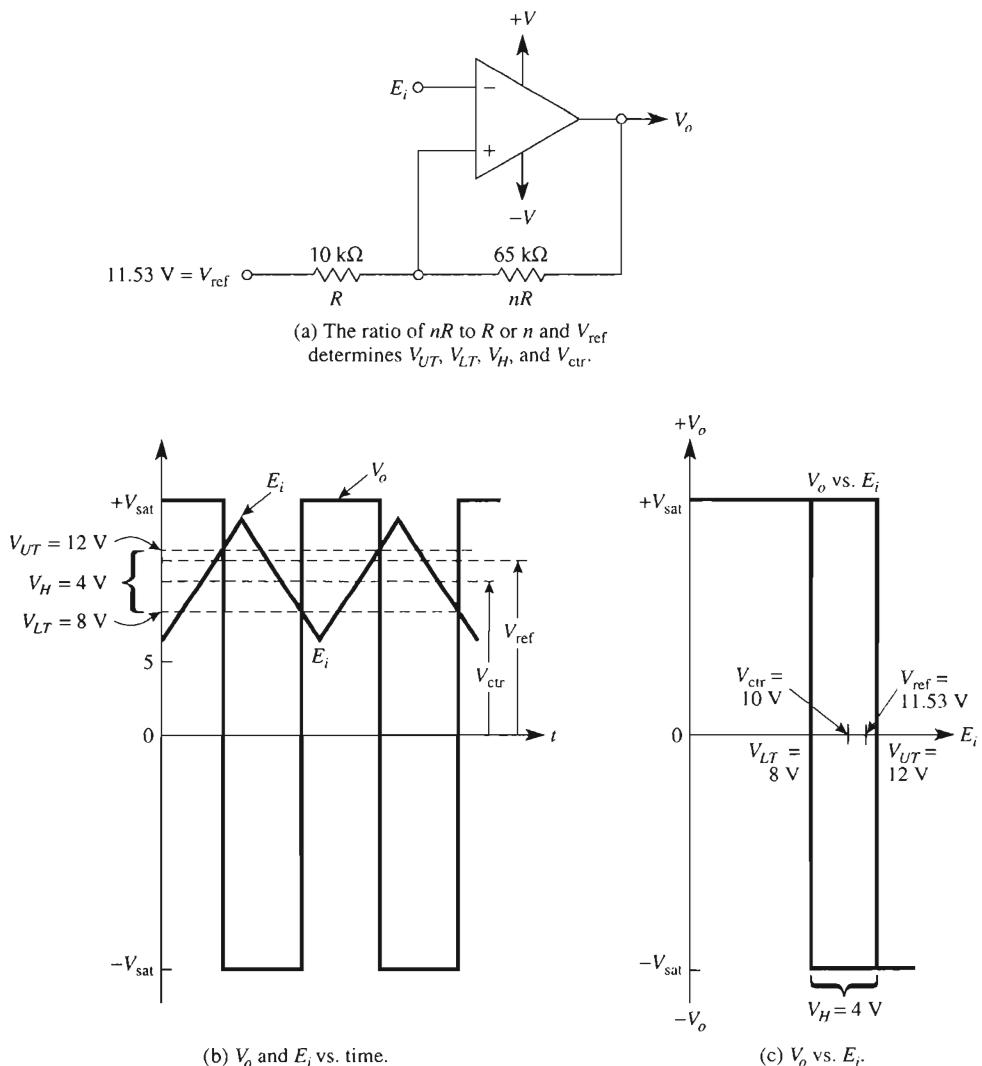

FIGURE 4-8 Inverting voltage-level detector with hysteresis. Center voltage V_{ctr} and V_H cannot be adjusted independently since both depend on n .
If E_i and V_{ref} are interchanged in Fig. 4-7(a), the result is the inverting voltage-level detector with hysteresis (see Fig. 4-8). The expressions for V_{UT} and V_{LT} are
Complete a design for Fig. 4-8 that has $V_{UT} = 12$ V and $V_{LT} = 8$ V. To make this example comparable with Example 4-4, assume that $\pm V_{\text{sat}} = \pm 15$ V. Therefore, $V_{\text{ctr}} = 10$ V and $V_H = 4$ V.
- Choose $R = 10 \text{ k}\Omega$; therefore, resistor nR will be $6.5 \times 10 \text{ k}\Omega = 65 \text{ k}\Omega$. These circuit values and waveshapes are shown in Fig. 4-8.